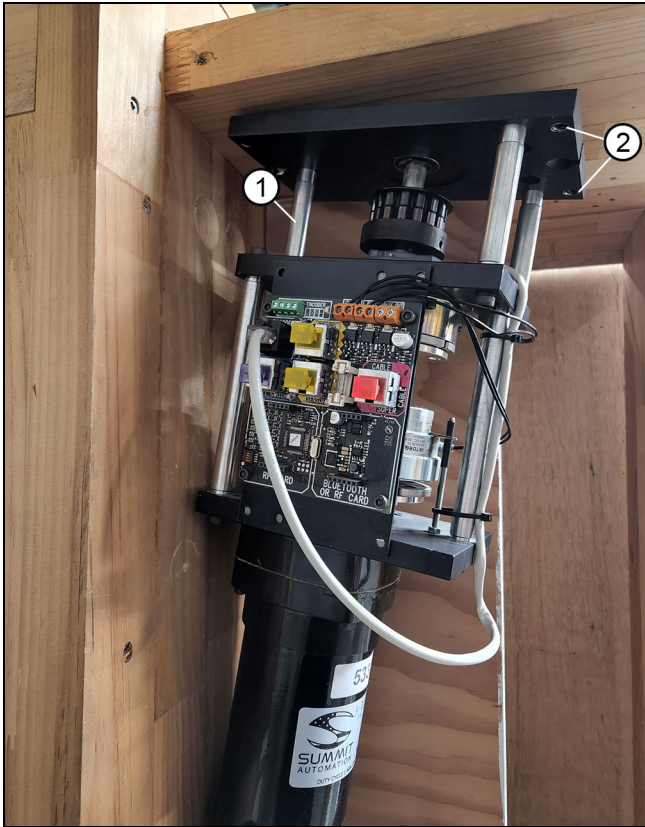

Figure 13
You will align the motor so it is centered on the lead panel. Mark a centerline in the motor cavity to aid installation. The front of the motor is the side with the single stand-off at the top of the motor. See Figure 13.
2. Hang the motor by the slotted hole on the front edge of the mounting plate. See Figure 13.